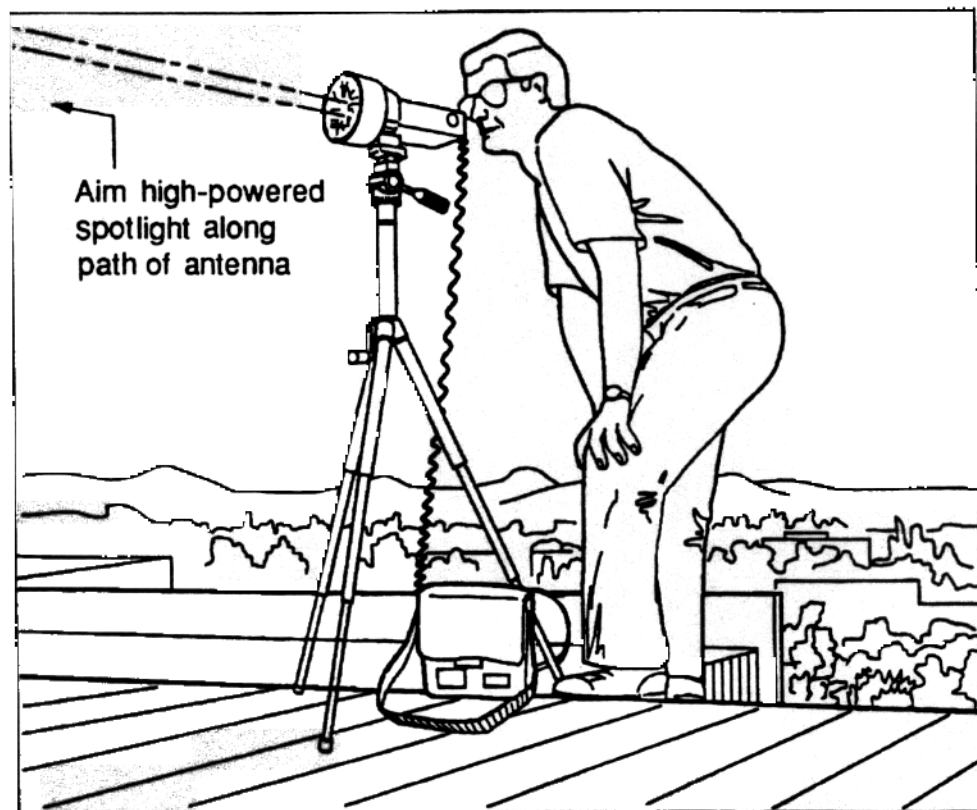

Figure 3-2. Aiming Antenna
9. Have your assistant at the far end turn on his/her spotlight and aim it toward you (refer to Figure 3-2) or flash the path with a mirror.